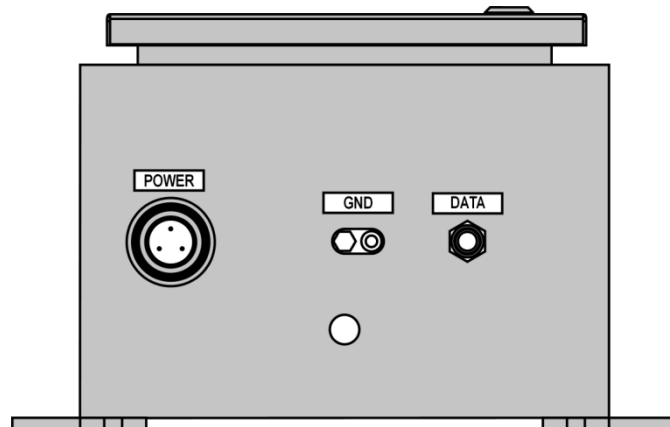

Figure 5. Freezing Rain Sensor Connectors
1. Connect the power cord's circular connector to the **POWER** connector on the bottom of the Freezing Rain Sensor enclosure (see Figure 5).
1. Connect the data cable's circular connector to the DATA connector on the bottom of the Freezing Rain Sensor enclosure (see Figure 5).